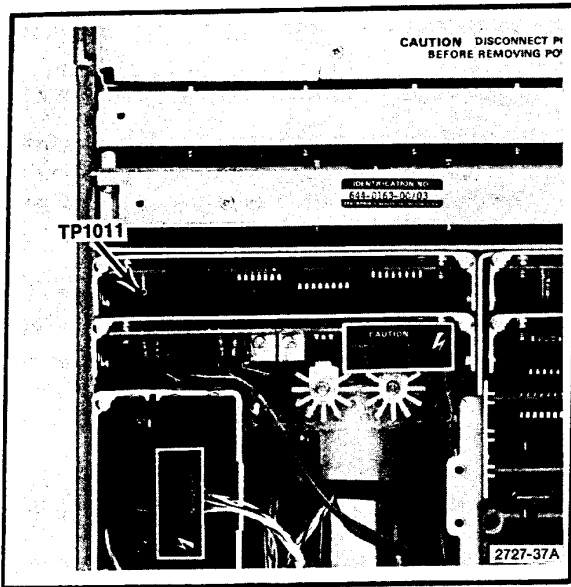

Fig. 3-26. Location of TP1011 on Crt Readout.
i. Change the test oscilloscope to Ext Trigger. Apply the Readout Off signal at TP1011 (Fig. 3-26), in the upper left corner of the crt readout board, to the test oscilloscope Ext Trigger input. Adjust the controls for a triggered sweep. Turn the 492/492P sweep off by activating SINGLE SWEEP, deactivate Digital Storage and ensure READOUT is on.